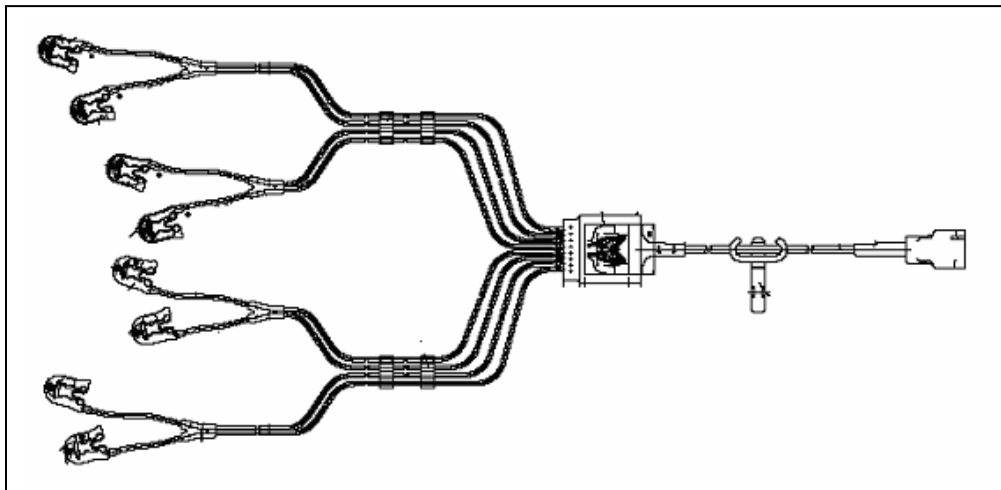

Figure 6-1. ICG Patient Cable
- LIFEGARD ICG Patient Cable (Figure 6-1)